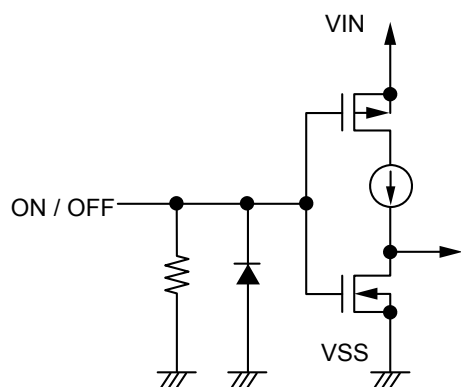

Figure 27 S-1335 Series A / C / E / G / J / L type
When the ON / OFF pin is set to OFF level, the entire internal circuit stops operating, and the built-in P-channel MOS FET output transistor between the VIN pin and the VOUT pin is turned off, reducing current consumption significantly. Note that the current consumption increases when a voltage of 0.3 V to 1.0 V is applied to the ON / OFF pin. The ON / OFF pin is configured as shown in **Figure 27** and **Figure 28**.
*1. Note that the IC's current consumption increases as much as current flows into the pull-down resistor of 2.2 MΩ typ. when the ON / OFF pin is connected to the VIN pin and the S-1335 Series A / C / E / G / J / L type is operating (refer to **Figure 27**).